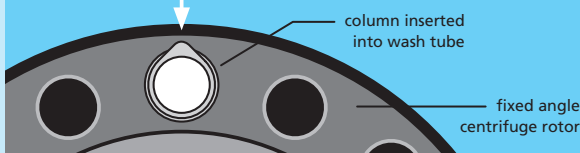

Figure 2
- Carefully apply sample directly to center of gel bed but without touching the gel bed surface (see Fig. 2).